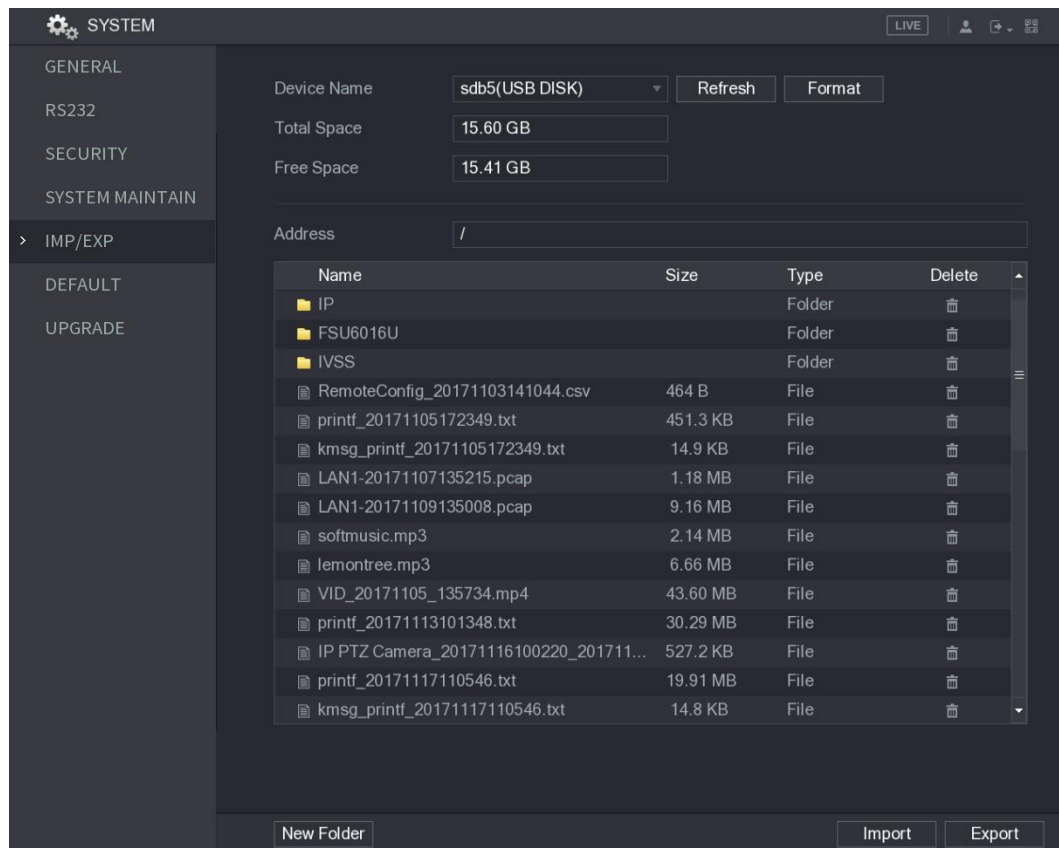

Figure 5-265
- The connected USB storage device is displayed. See Figure 5-265.